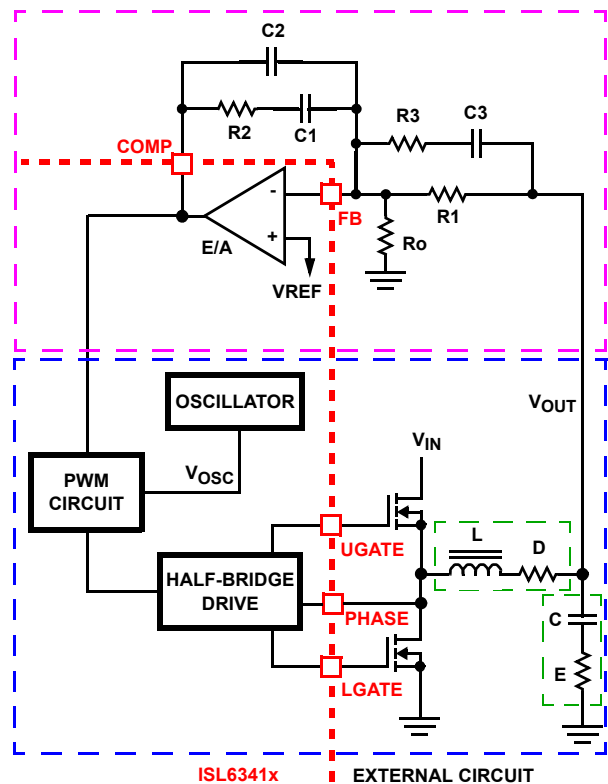

FIGURE 13. VOLTAGE-MODE BUCK CONVERTER COMPENSATION DESIGN
address a broad range of applications, a type-3 feedback network is recommended, as shown in the top part of Figure 13.
Figure 13 also highlights the voltage-mode control loop for a synchronous-rectified buck converter, applicable to the ISL6341x circuit. The output voltage (V_{OUT}) is regulated to the reference voltage, V_{REF} . The error amplifier output ($COMP$ pin voltage) is compared with the oscillator (OSC) modified sawtooth wave to provide a pulse-width modulated wave with an amplitude of V_{IN} at the $PHASE$ node. The PWM wave is smoothed by the output filter (L and C). The output filter capacitor bank’s equivalent series resistance is represented by the series resistor E .
(F_0 ; typically 0.1 to 0.3 of f_{SW}) and adequate phase margin (better than 45°). Phase margin is the difference between the closed loop phase at F_{0dB} and 180° . The equations that follow relate the compensation network's poles, zeros and gain to the components (R_1, R_2, R_3, C_1, C_2 , and C_3) in Figure 13. Use the following guidelines for locating the poles and zeros of the compensation network:
4. Select a value for R_1 ($1k\Omega$ to $5k\Omega$, typically). Calculate the value for R_2 for desired converter bandwidth (F_0). If setting the output voltage via an offset resistor connected to the FB pin (R_0 in Figure 13), the design procedure can be followed as presented in Equation 4.